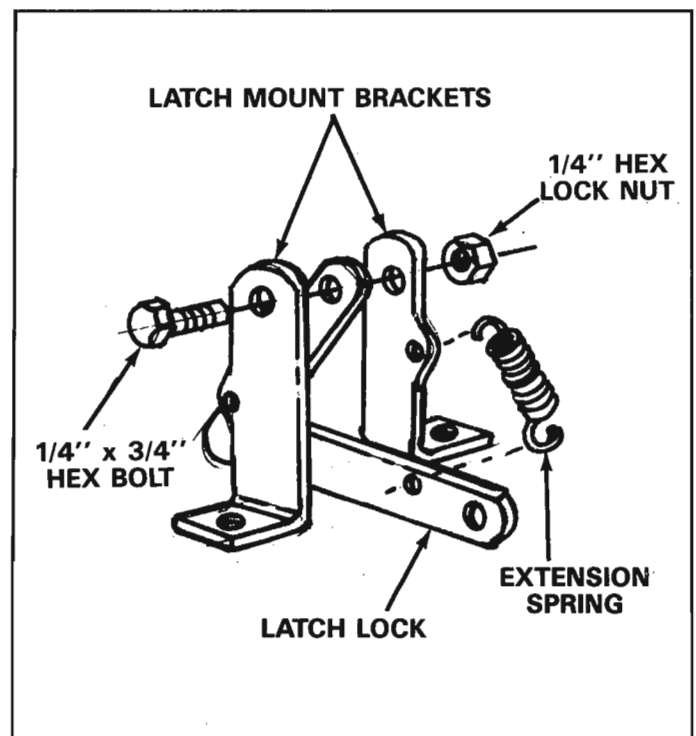

FIGURE 9
15. Assemble two latch mount brackets, latch lock and extension spring using one 1/4" x 3/4" hex bolt and 1/4" hex lock nut. See figure 9. Do not tighten 1/4" lock nut, latch lock must pivot freely.